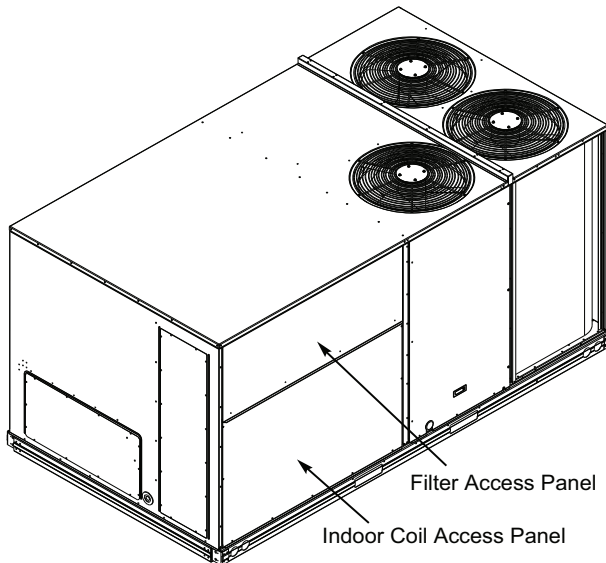

Fig. 8 — Typical Access Panel Locations
2. To gain access to the hood, remove the filter access panel (see Fig. 8).